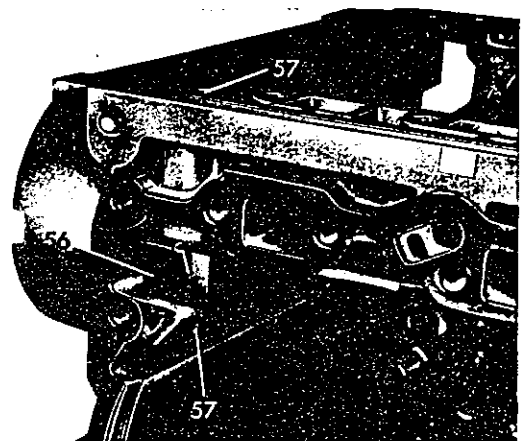

Fig. 27
1 Install pressure pins B 1 and B 2 (59) with new O-rings into transmission case and lock with securing yoke (58) **Fig. 27**
2 Insert brake band lever B 3 (57) into transmission case, install bearing pin (56) from above and secure with yoke (55) Fig. 27